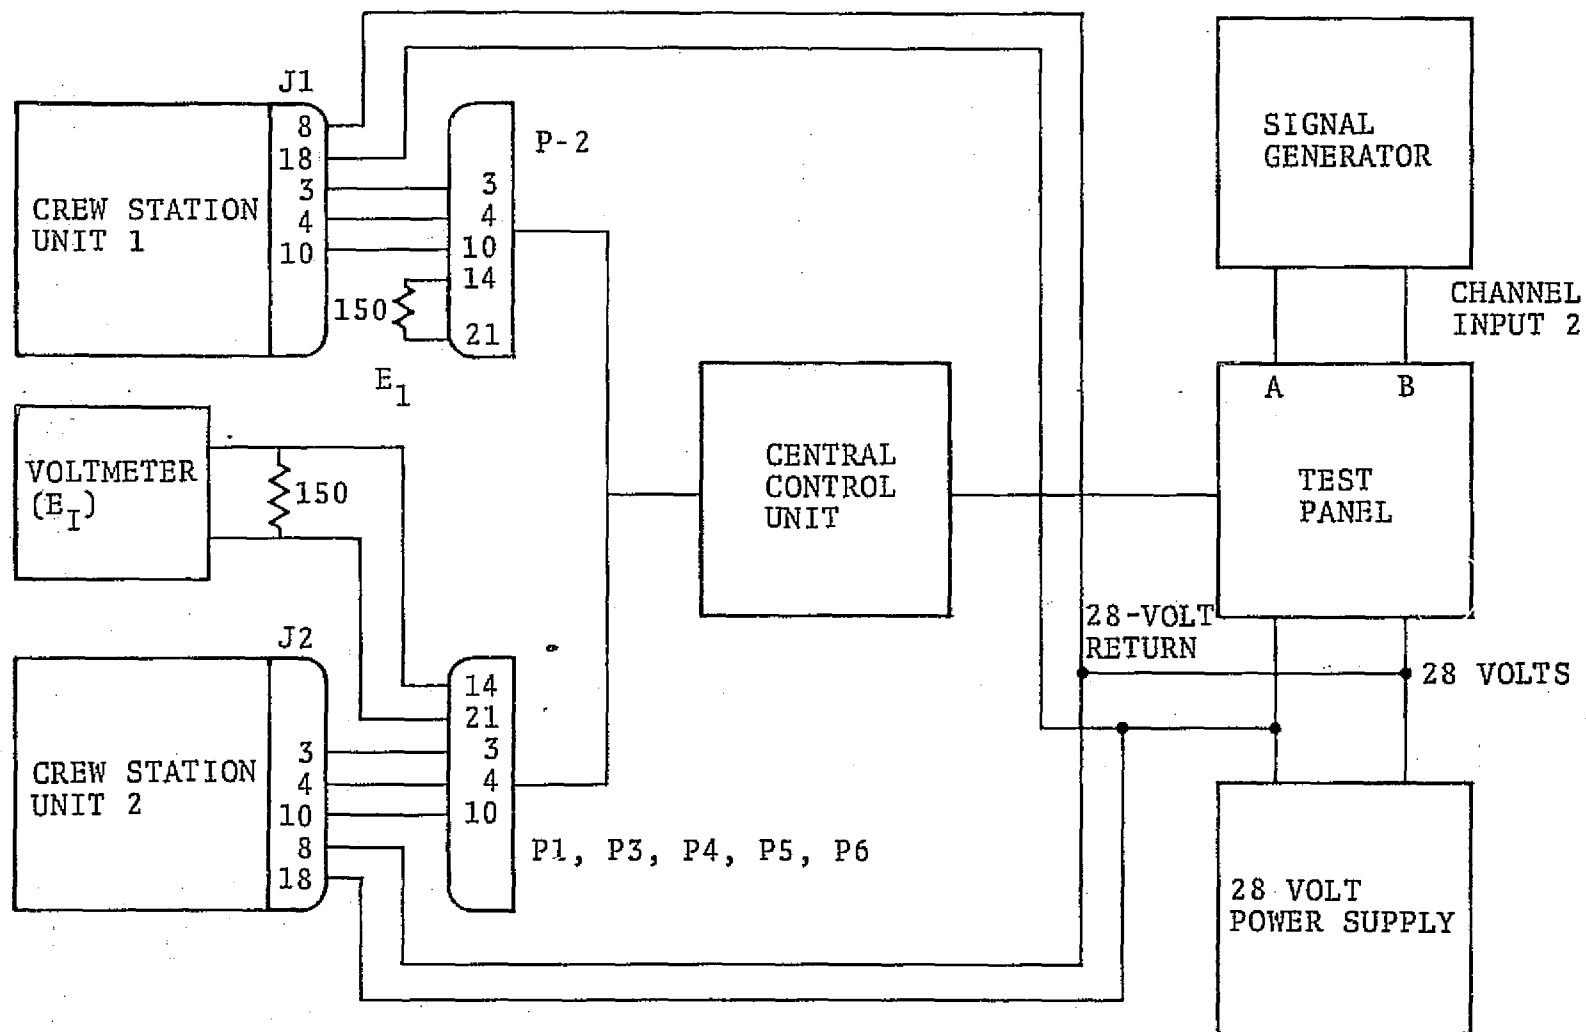

Figure 5-6. — Receive section isolation test setup.
1. Connect the equipment as shown in figure 5-6 starting with plugs P-2 and P-3 for CSU 1 and 2 respectively.